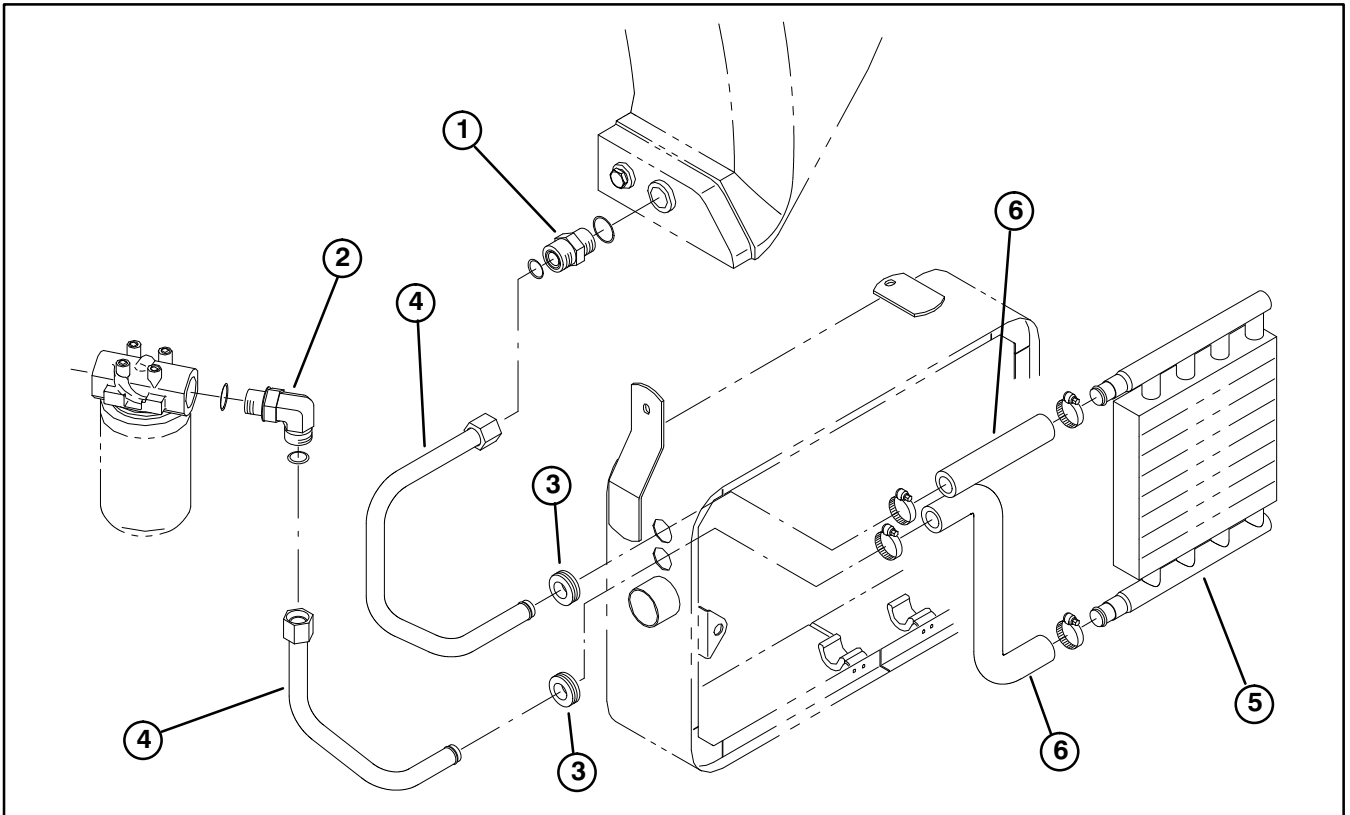

Figure 3
4. Mount a straight fitting w/ O-ring to hydraulic reservoir (Fig. 3).
5. Mount a 90° fitting w/ O-ring to hydraulic filter head. Position fitting as shown in figure 3.
8. Insert a rubber grommet into each hole in side of radiator (Fig. 3).
9. Mount a tube assembly w/O-ring to straight fitting on hydraulic reservoir while inserting other end of tube through upper grommet in side of radiator (Fig. 3).
10. Mount a tube assembly w/O-ring to elbow fitting on hydraulic filter head while inserting other end of tube through lower grommet in side of radiator (Fig. 3).
11. Assemble the (2) formed hoses to oil cooler with (2) hose clamps. Position hoses as shown in figure 3.
12. While hanging oil cooler onto J-hooks in radiator, secure formed hoses to tube assemblies with (2) hose clamps.